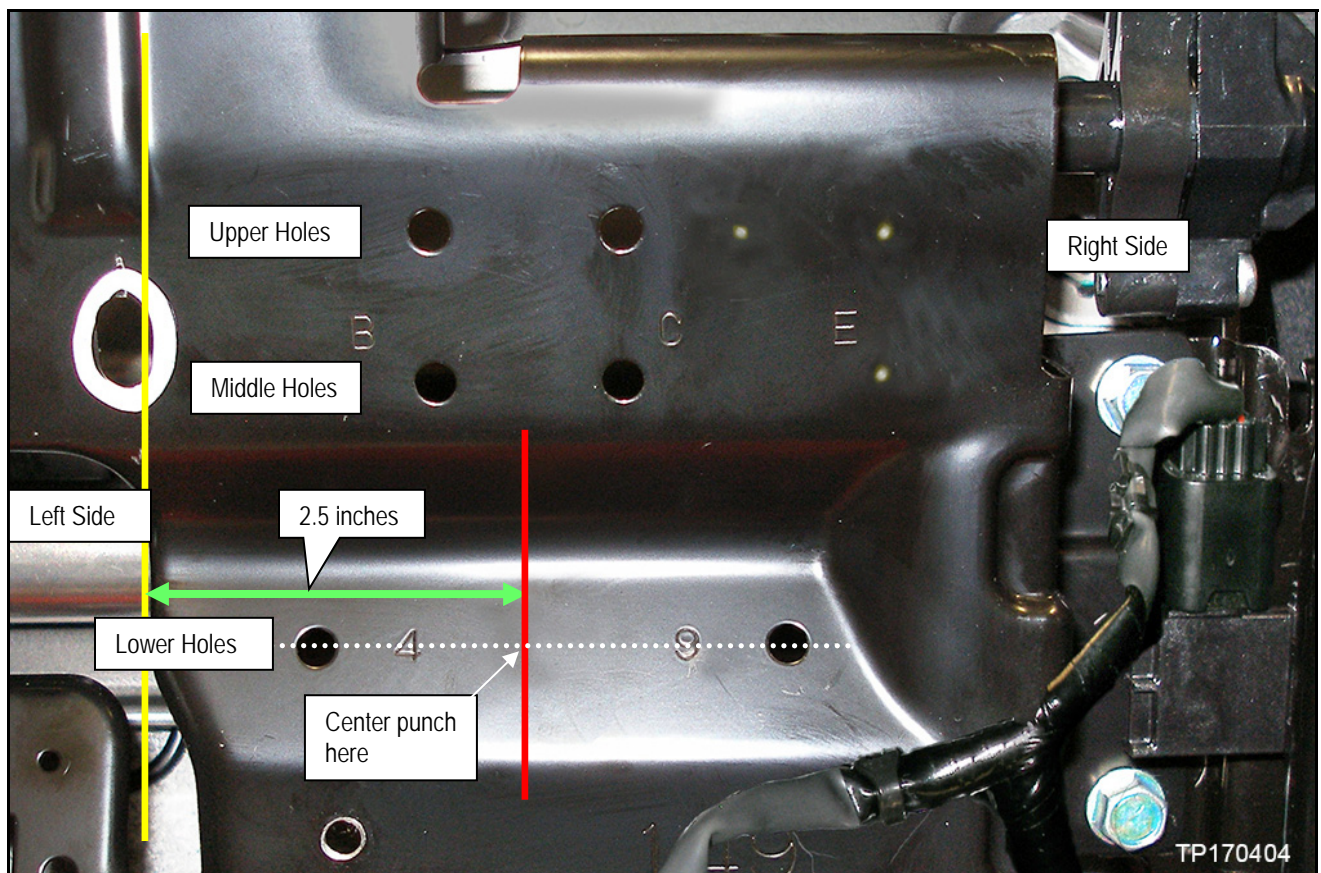

Figure 7
21. Mark the locations for drilling 1 new lower hole (see Figure 7).